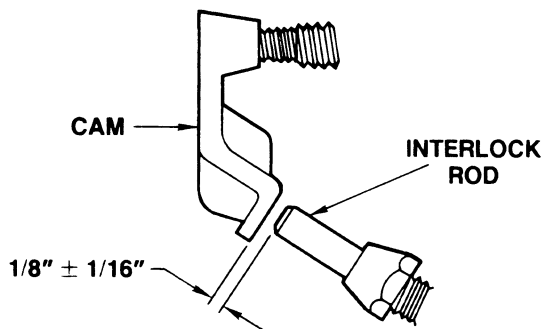

Figure 1 CAM to Interlock Rod Spacing
6. Check receptacle interlocked rod end clearance to cam (See Fig. 1). Clearance should be $1/16$ to $3/16$ ". If not, adjust cam according to INSTRUCTIONS FOR CAM ADJUSTMENT below. (DO NOT ADJUST RECEPTACLE)
2. Estimate distance between cam and end of interlock rod. (See Fig. 1)